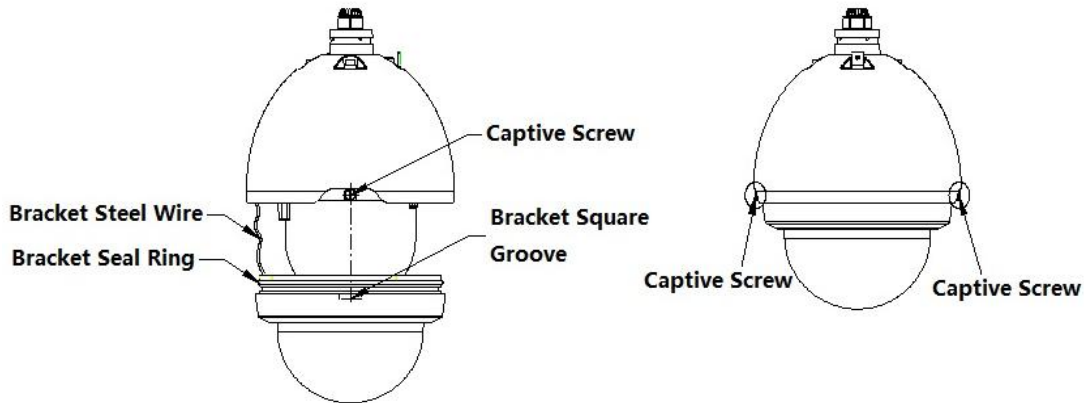

Figure 1-4
2. Please line up the captive screws to the quadrate groove of the bracket and then push the bracket into the internal enclosure. Fix these two captive screws. See Figure 1-4.